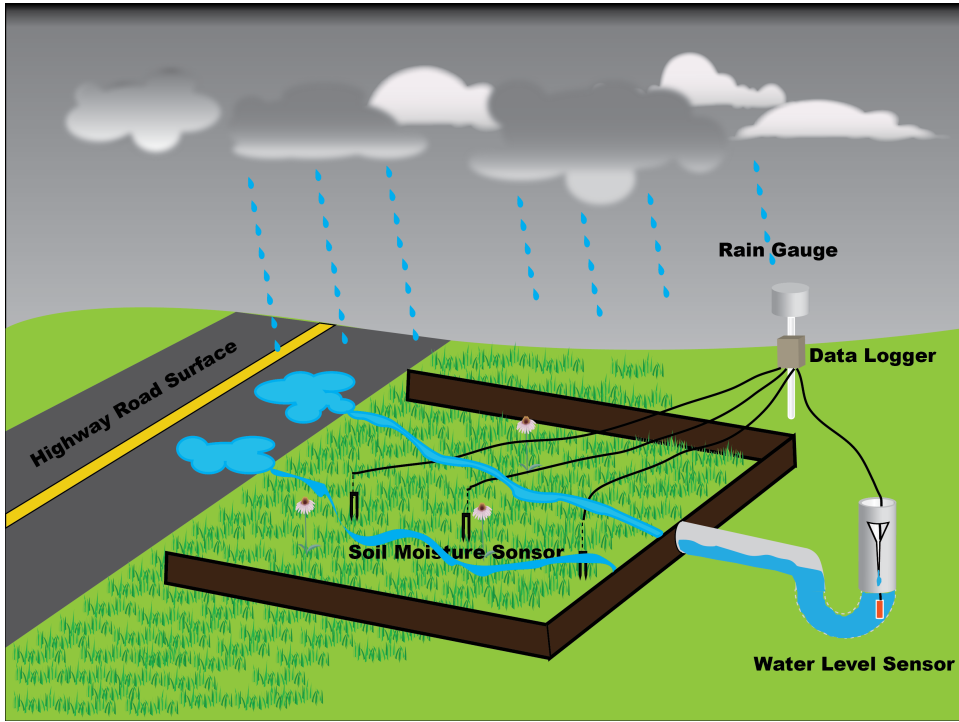
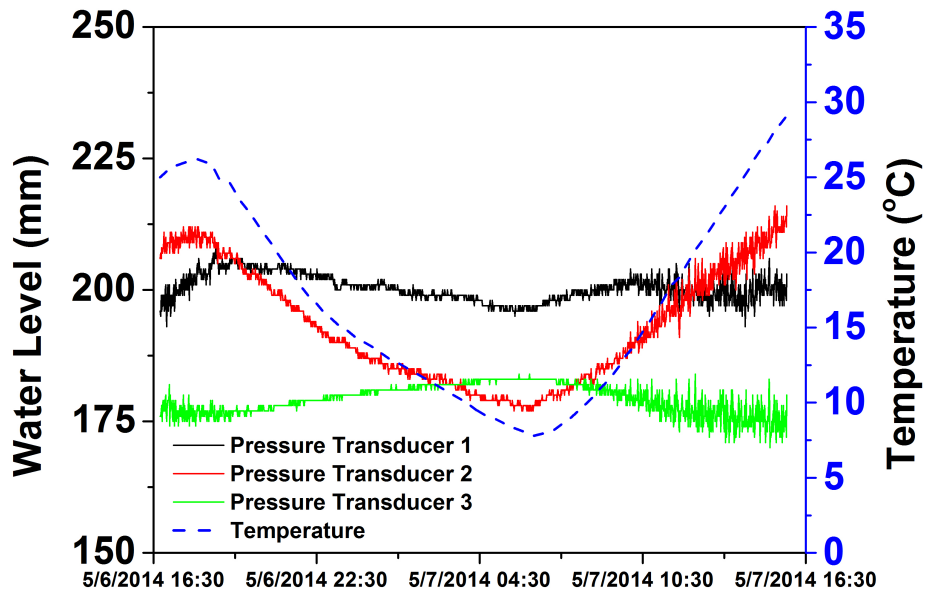
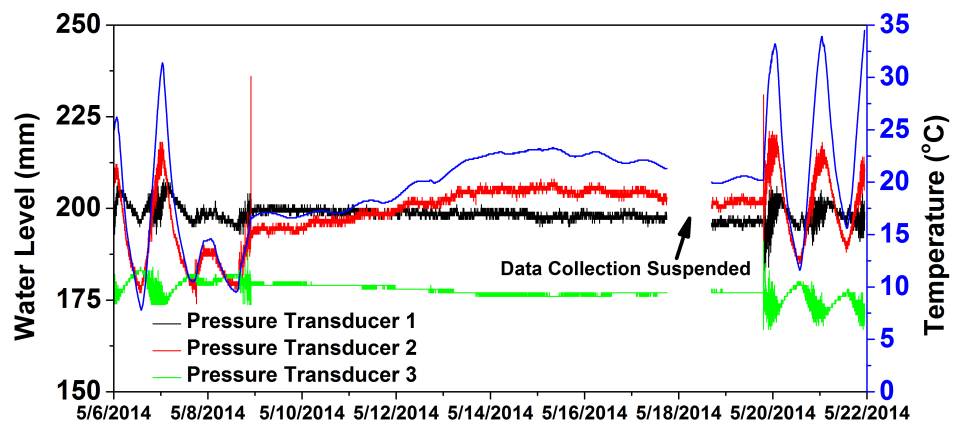

Figure 1: Schematic of field installation.
Figure 2: Figure 2 with new left Y axis.
Figure 3: Figure 6 with new left Y axis.
*Minor problems: page 4, 2.1, 5, What does it mean the abbreviation CTD? page 4, 2.1, 10, What can be the situation when the cable length is significantly shorter than 10m? (because for surface water measurements this is the general case)? page 5, 2.2, 8, 30 or 40 cm (on page 13) What is the depth of burial? page 5, 2.2, 17, Where is located the EM50 datalogger? page 10, equation (14) to my mind L2 is miss from the upper part of the division. page 14, 4, 1mm change to 1mm/day page 21 - Figure 2 and page 25 - Figure 6, The scale of water level vertical axis of the graph would be better 150-250.*
**Response:** The datalogger was installed within few meters from where the CTD sensor is installed. We also installed soil moisture sensors and a rain gauge for the monitoring site so the datalogger was placed where all the sensors can reach. The exact location differs for different sites. Figure 1 shows a general idea about how the datalogger is placed.
6. page 10, equation (14) *to my mind  $L^2$  is miss from the upper part of the division.*
8. page 21 - Figure 2 and page 25 - Figure 6, *The scale of water level vertical axis of the graph would be better 150-250.*
**Response:** We modified figure 2 and figure 6 as the reviewer suggested. Please see Figure 2 and Figure 3 here.